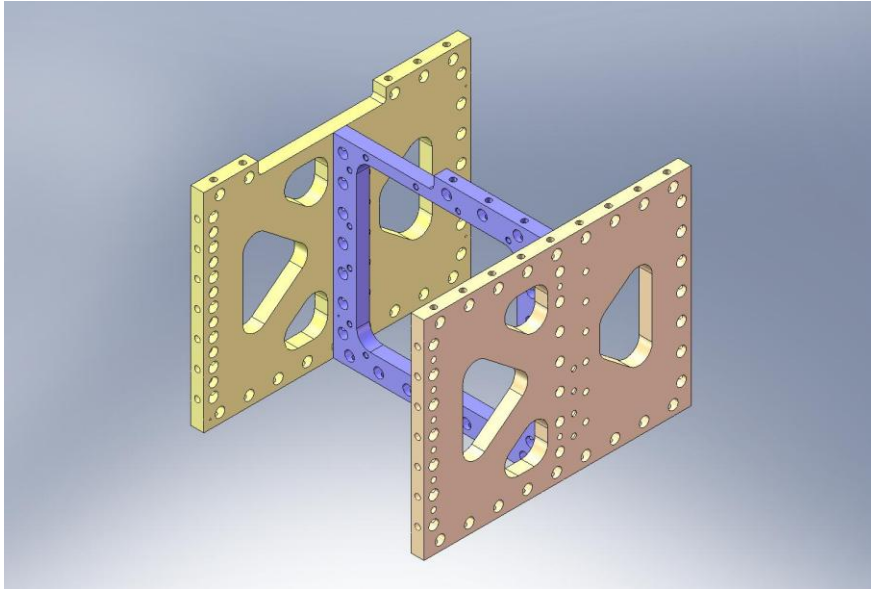

Figure 2.21. Step 1 of Boxwork Assembly. Radial Ribs are placed against Mid-Tangential Ribs.
- With plates standing vertically, butt the **Radial Ribs** (D071069 and D071068) against either side of the **Mid-Tangential Rib** (D071071), as shown in Figure 2.21. Make sure pins seat properly into mating holes and slot.